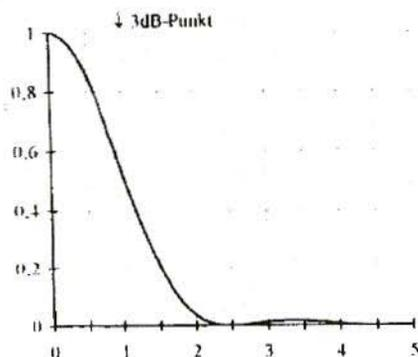

Fig. 7: Diagram of Parabolic Antenna
Fig. 7 shows the antenna diagram.
#### Clarification of Fig. 7:
- The x axis is once again as in Fig.7